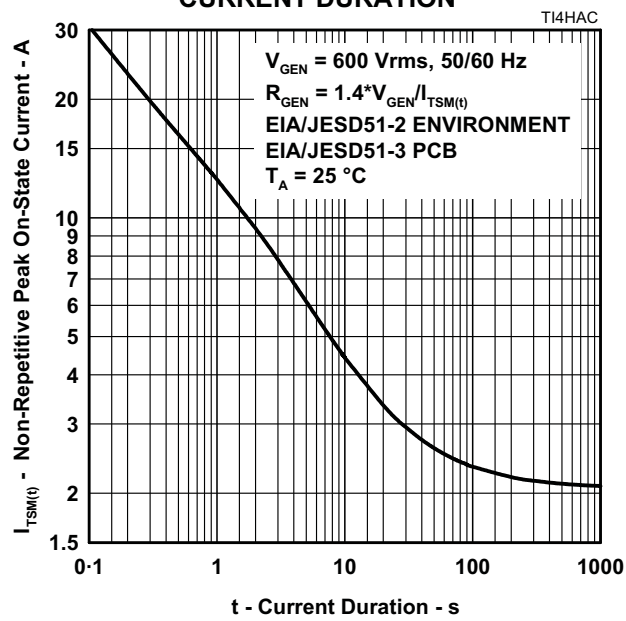

Figure 5.
4. EIA/JESD51-2 environment and EIA/JESD51-3 PCB with standard footprint dimensions connected with 5 A rated printed wiring track widths. See Figure 5 for the current ratings at other durations. Derate current values at $-0.61\text{ }^{\circ}\text{C}$ for ambient temperatures above $25\text{ }^{\circ}\text{C}$.